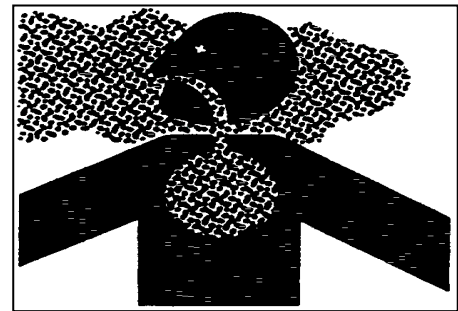

Figure 1.25
- 1) Prevent inhaling possible asbestos dust (As figure 1.25), for the asbestos fiber may cause lung cancer.